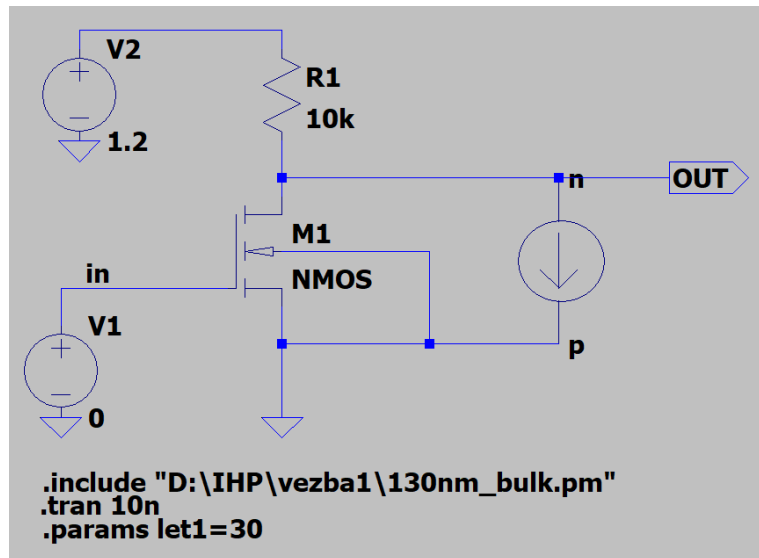

Fig. 14. Adding of **.params** directive
17. It should be noted that the LET parameter in the SET model card is set as {let1}, which means that it is not assigned a default value. In the simulation, it is necessary to set the desired value of this parameter using the **.params** command, as shown in Fig. 14. To keep the transistor off, set generator V1 to 0V.